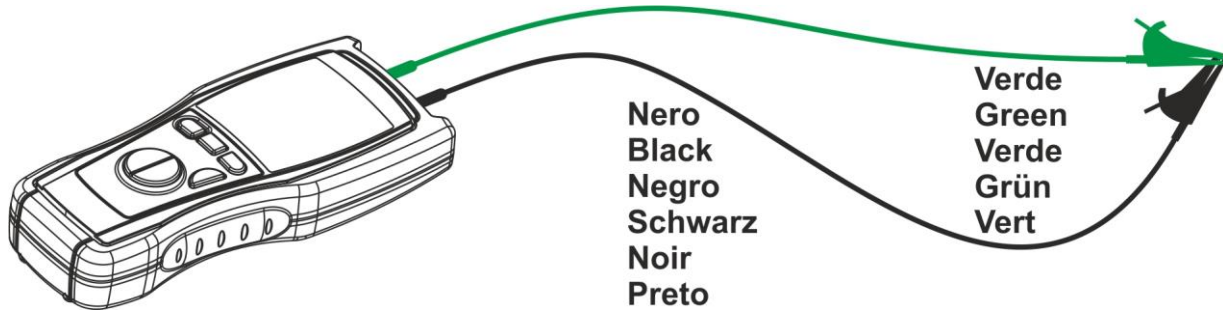

Fig. 6: Connection of the instrument's terminals during calibration procedure
- Short-circuit the cable ends with each other as shown in Fig. 6 making sure that the metallic parts of test probes and crocodiles are in good touch